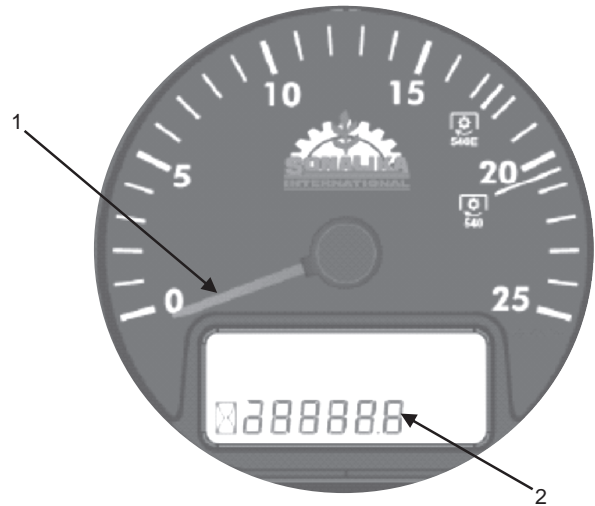

Fig.3-3
3.3 Hour Cum RPM Meter (Fig. 3-3)